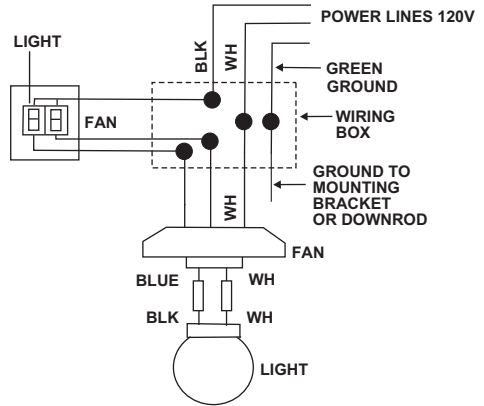

Figure 12
Step 2. Slide the canopy up to mounting bracket and place the key hole on the canopy over the screw on the mounting bracket, turn canopy until it locks in place at the narrow section of the key holes. (Fig. 12)